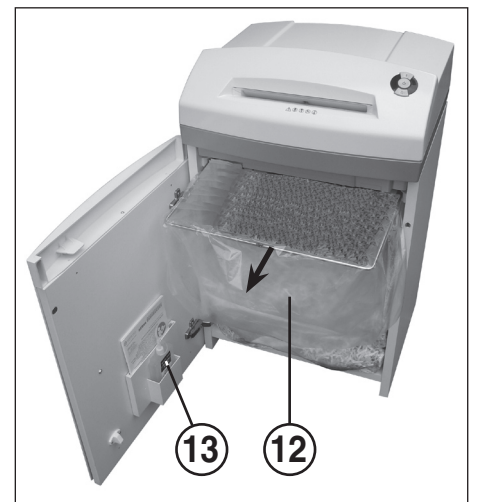

fig. 4
12 = Paper collection bag (Fig. 4)
13 = Oil reservoir (Fig. 4)
**PAPER COLLECTION BAG (Fig. 4):**
Open the door. The control display (8) comes on and the reverse button (4) LED display as well as the control display (7) **flashes**. Remove the oil reservoir (13) (Fig. 4) from the holder in the door and close the door again.